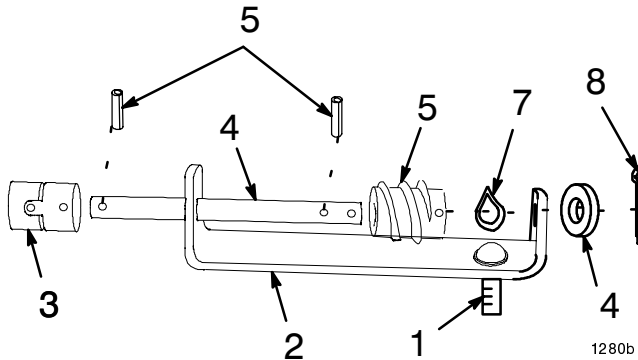

Figure 1
1. Using a drift punch, drive out roll pins from universal joint and worm gear of rotator assembly (Fig. 1). Remove cotter pin and washer from end of shaft (Fig. 1).
3. Secure universal joint to rod with roll pin at the end with single hole. (Fig. 1).
4. Insert carriage bolt into bracket so it is retained by the worm gear (Fig. 1).
5. Slide rod through end of bracket away from carriage bolt (Fig. 1). Install worm gear at second hole with roll pin. Slide wave washer onto rod and slide through end of bracket. Secure with washer and cotter pin (Fig. 1).